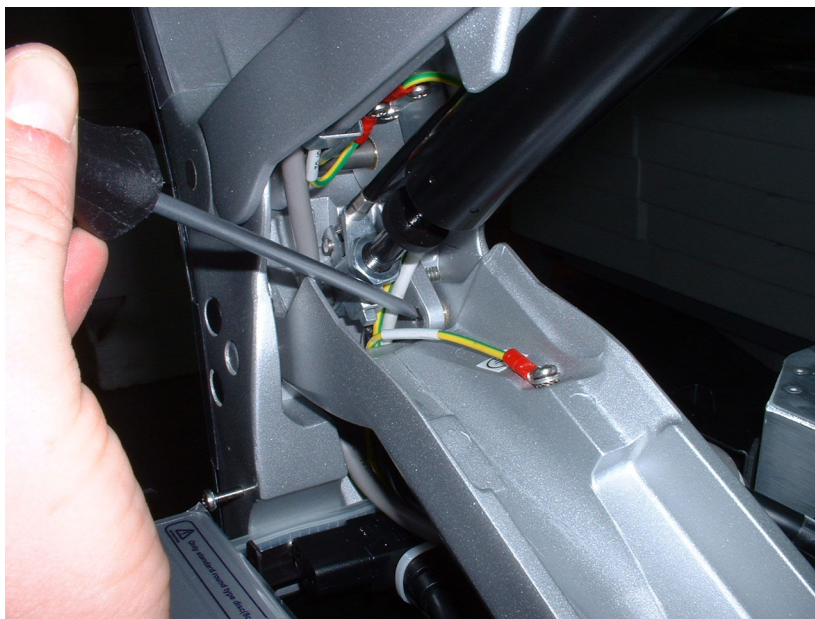

Figure 8-107 Removing Securing Pin and Disconnecting Ground Lead
- 9.) While supporting the Lower Arm with one hand, use a Phillips screwdriver to disconnect the Ground lead - Figure 8-107.
- 3) Return and fasten the Lower Arm securing pin (previously removed) on the *right* side of the lower arm - Figure 8-107 on page -117.
- 4) Return and fasten the Lower Arm securing pin (previously removed) on the *left* side of the Lower Arm - Figure 8-107 on page -117.